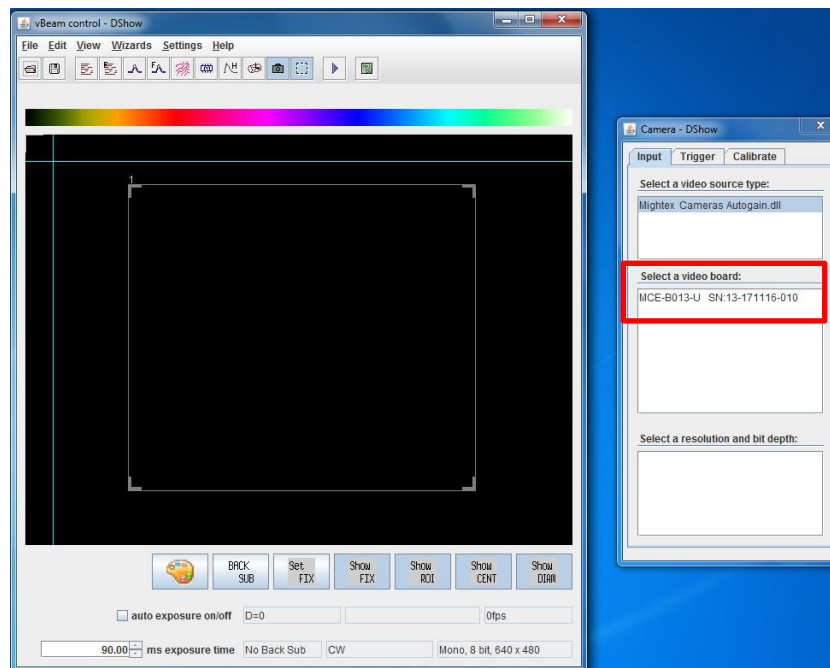

Figure 32: Video board selection
- When the application starts there will be two windows labeled “vBeam control – Dshow” and “Camera – Dshow”. Under the “Camera – Dshow” window, the middle box labeled “Select a video board” there will be a part number and serial number for the camera similar to “MCE-B013-U SN:XX-XXXXXX-XXX”. Click on the part number (Figure 32).